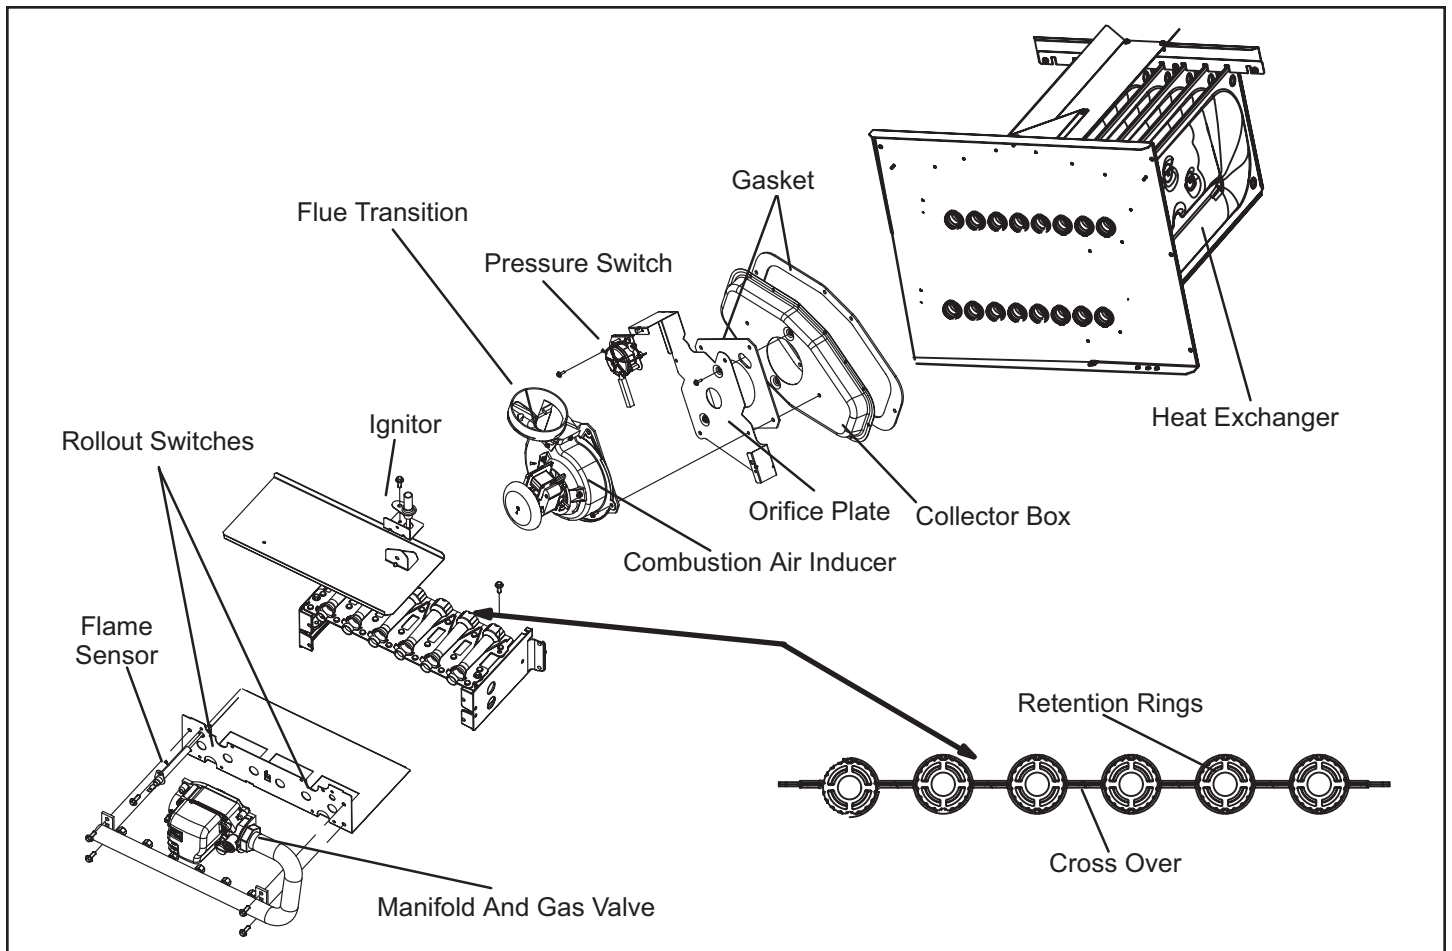

Figure 21. Burner, Combustion Air Inducer Assembly & Heat Exchanger Removal
10. To clean burners, run a vacuum cleaner with a soft brush attachment over the face of burners. Visually inspect inside the burners and crossovers for any blockage caused by foreign matter. Remove any blockage. Figure 21 shows burner detail.